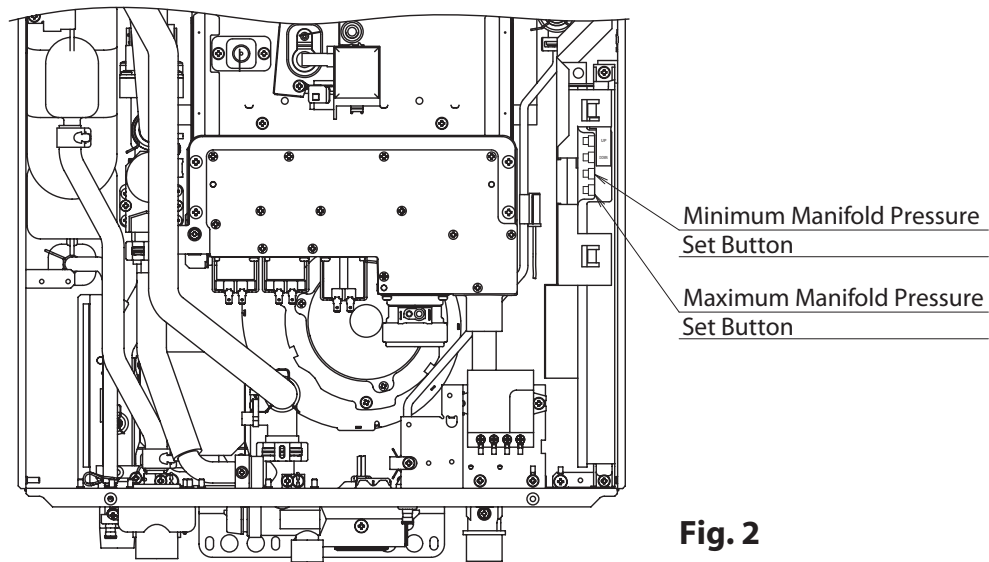

Fig. 2
1. Within the first 10 minutes of connecting electrical power, with the unit turned off and no water passing through the unit, press "the Minimum Manifold Pressure Set Button" and "the Maximum Manifold Pressure Set Button" at the same time for 10 seconds (Fig. 2).